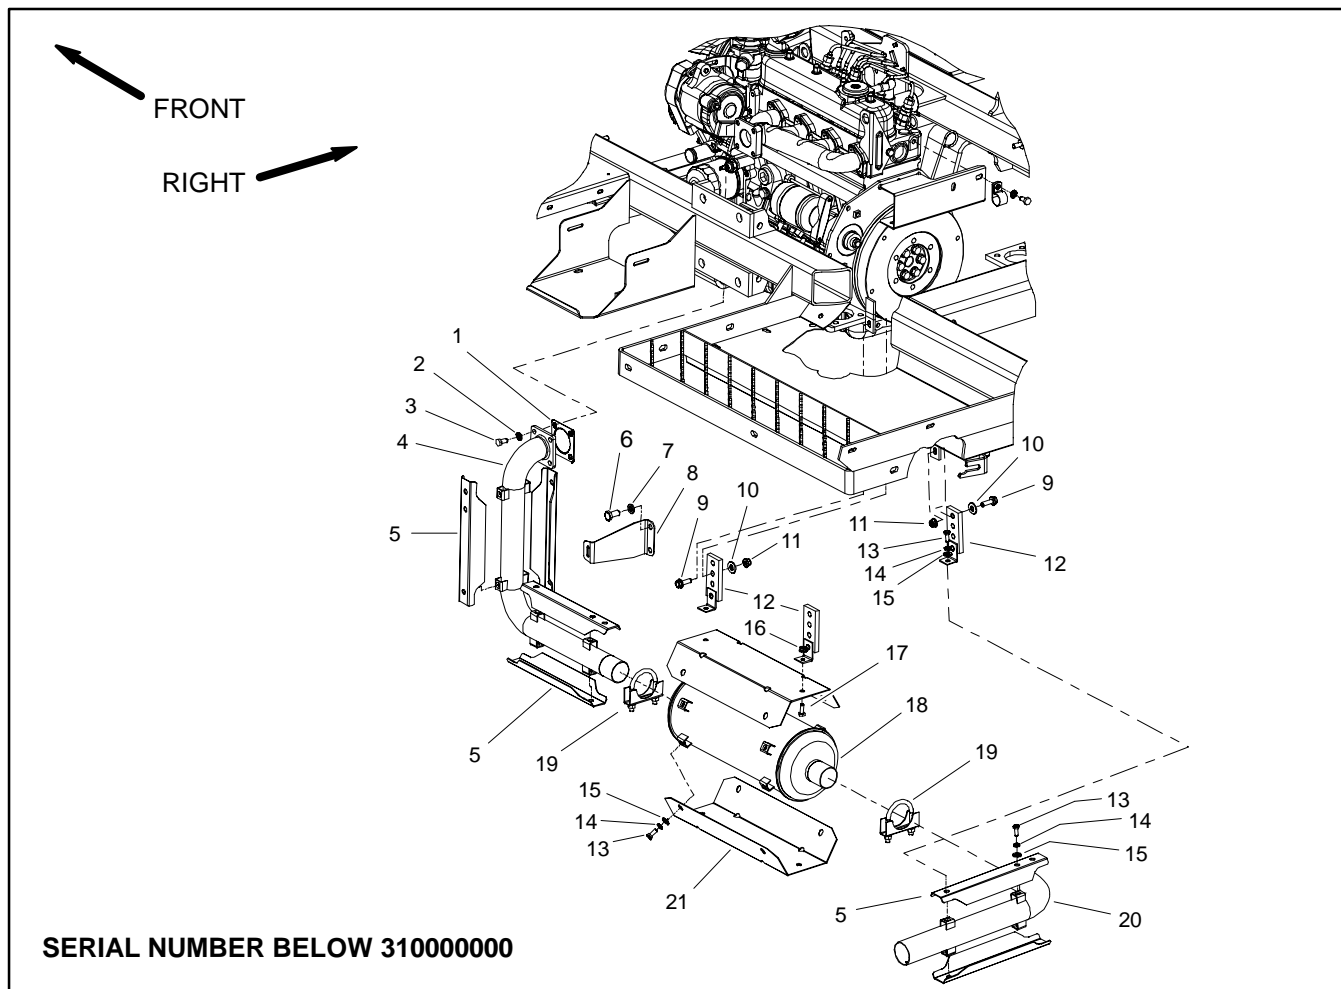
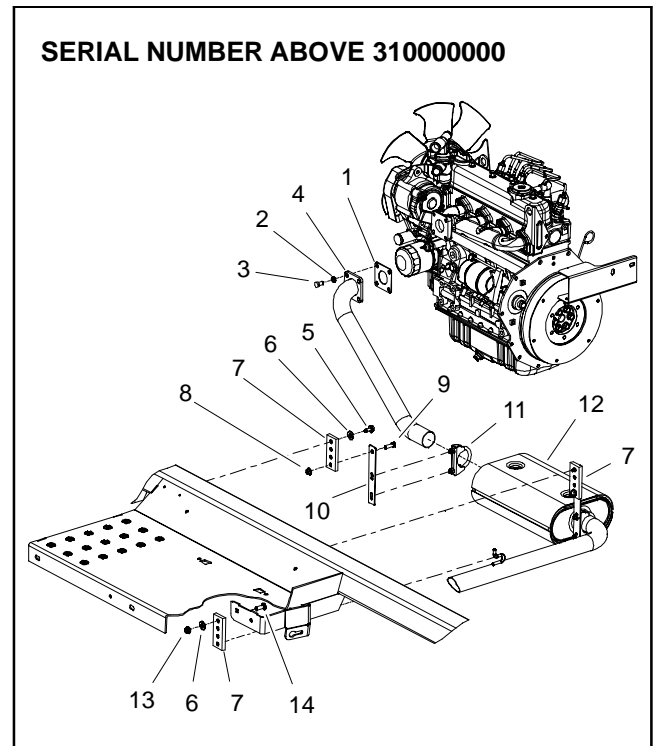

Figure 6
Figure 7
Removal (Fig. 6 or 7)
3. Remove exhaust system components as required using Fig. 6 (machines with serial number below 310000000) or Fig. 7 (machines with serial number above 310000000) as a guide. During removal, note location of fasteners in rubber exhaust system hangers so hangers are properly assembled.
Installation (Fig. 6 or 7)
3. Install all removed exhaust system components using Fig. 6 (machines with serial number below 310000000) or Fig. 7 (machines with serial number above 310000000) as a guide.